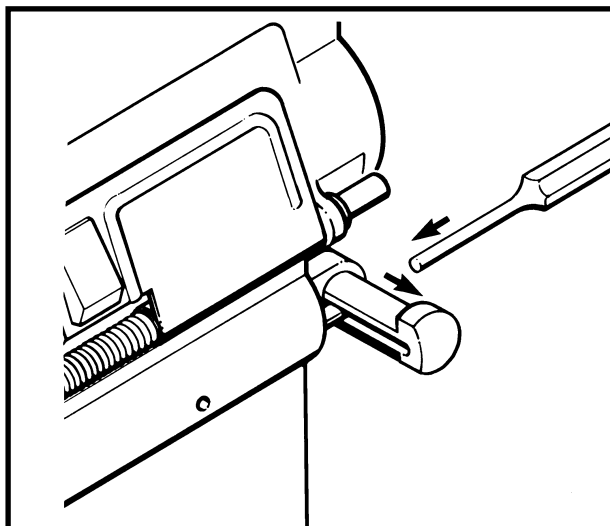

Figure 3-2-50 Removing the Receiver Pivot Pin
- a. Insert the end of a suitable punch into the hole in the pivot pin, to depress the detent. See Figure 3-2-50;